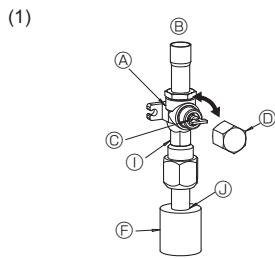
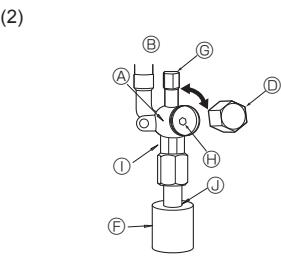

Fig. 4-6
Fig. 4-7
- (1) Gas side (Fig. 4-6)
- ① Remove the cap, pull the handle toward you and rotate 1/4 turn in a counterclockwise direction to open.
- ② Make sure that the stop valve is open completely, push in the handle and rotate the cap back to its original position.
- (2) Liquid side (Fig. 4-7)
- ① Remove the cap and turn the valve rod counterclockwise as far as it will go with the use of a 4 mm hexagonal wrench. Stop turning when it hits the stopper.